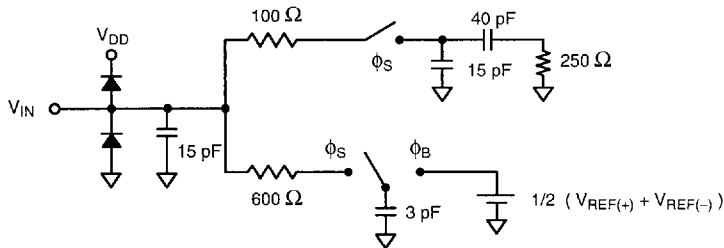

Figure 4. Analog Input Equivalent Circuit
- 3 See  $V_{IN}$  input equivalent circuit (*Figure 4*).